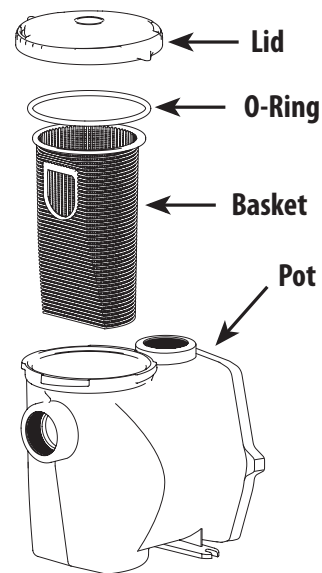

FIGURE 2
8. Reinstall the lid (Figure 2).